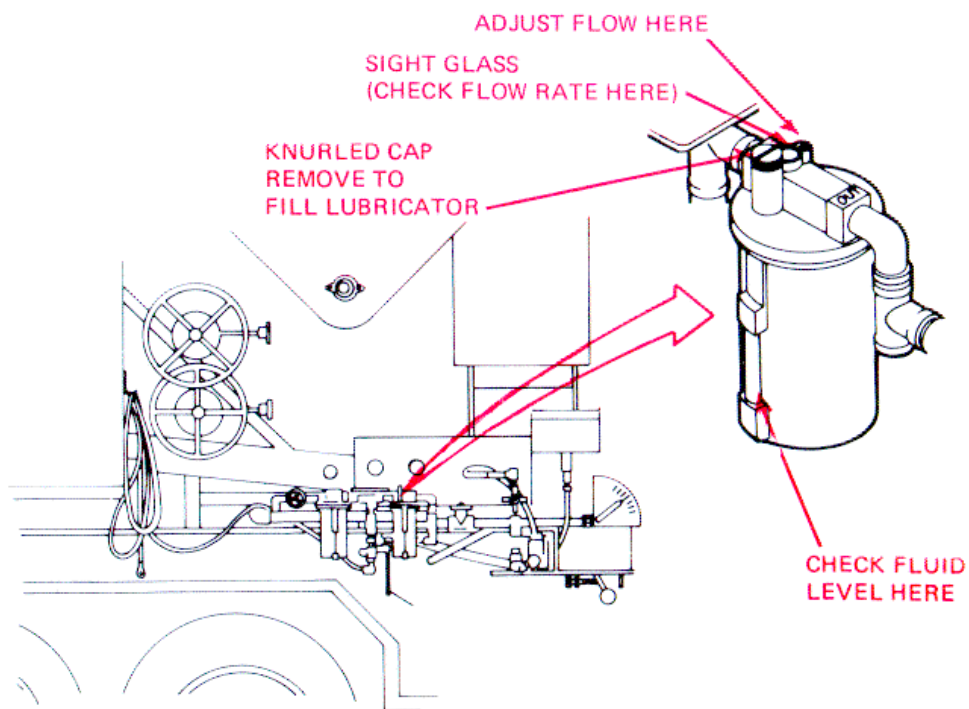

Figure 3-3. Vibrator Air Lubricator.
c. Vibrator Air Lubricator (See fig. 3-3.) The vibrator air lubricator should dispense approximately one drop of oil every third vibration. This rate may be checked by observing the sight glass on top of the unit. To adjust flow rate, turn the screw on top of the unit clockwise to slow down oil flow or counterclockwise to speed up oil flow. Check the sight gage on the side of the reservoir to determine when the reservoir requires filling. Filling is only required when oil is not visible in the sight gage. To fill the reservoir unscrew the knurled cap on top of the unit and pour in oil. Observe the sight gage to determine when the reservoir is full. Install and tighten the knurled cap finger tight.